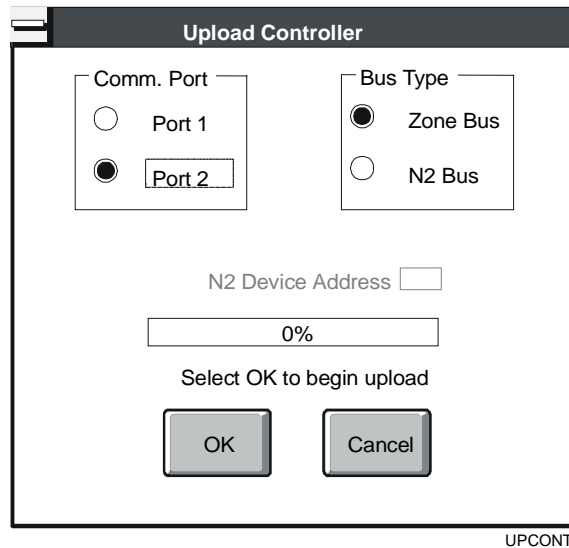

Figure 4-2: Upload Controller Dialog Box
1. On the Upload menu, click Configuration in Controller. The Upload Controller dialog box appears (Figure 4-2). The Communication Port, Bus Type, and N2 Device Address all default to the last entered value.